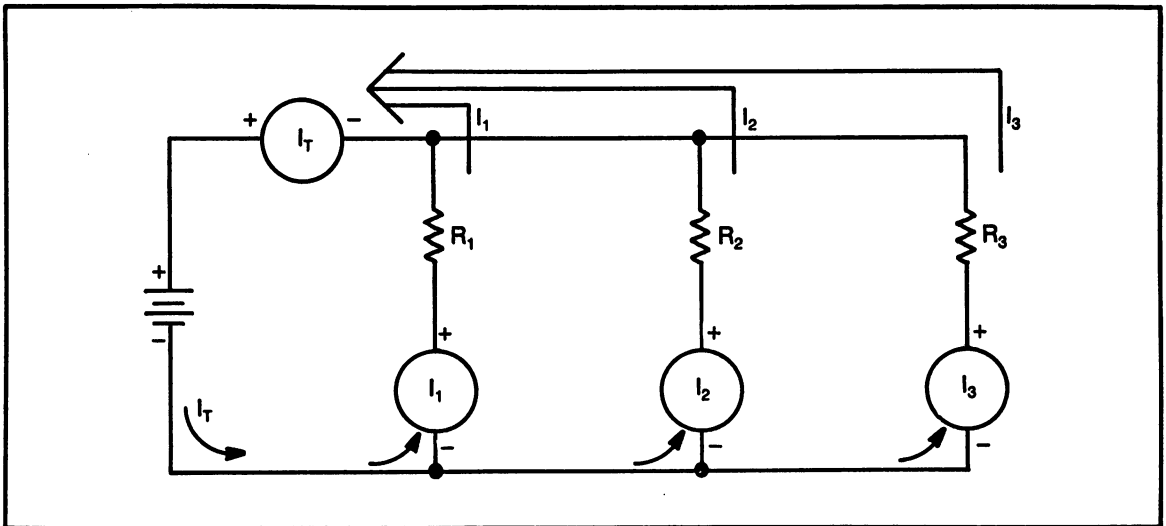

Fig. 9-37. Parallel circuit with ammeters to measure branch current.
- (4) First, calculate total current and branch currents. Then, use Fig. 9-37 as a guide to connect an ammeter to measure circuit currents. Disconnect the wire from the positive side of the power supply to the circuit. Connect an ammeter in place of the wire. Remember: ammeters are connected in series with the current flow. Measure each branch current using the same technique; disconnect a wire and connect the meter in its place. Be sure to observe meter polarity.